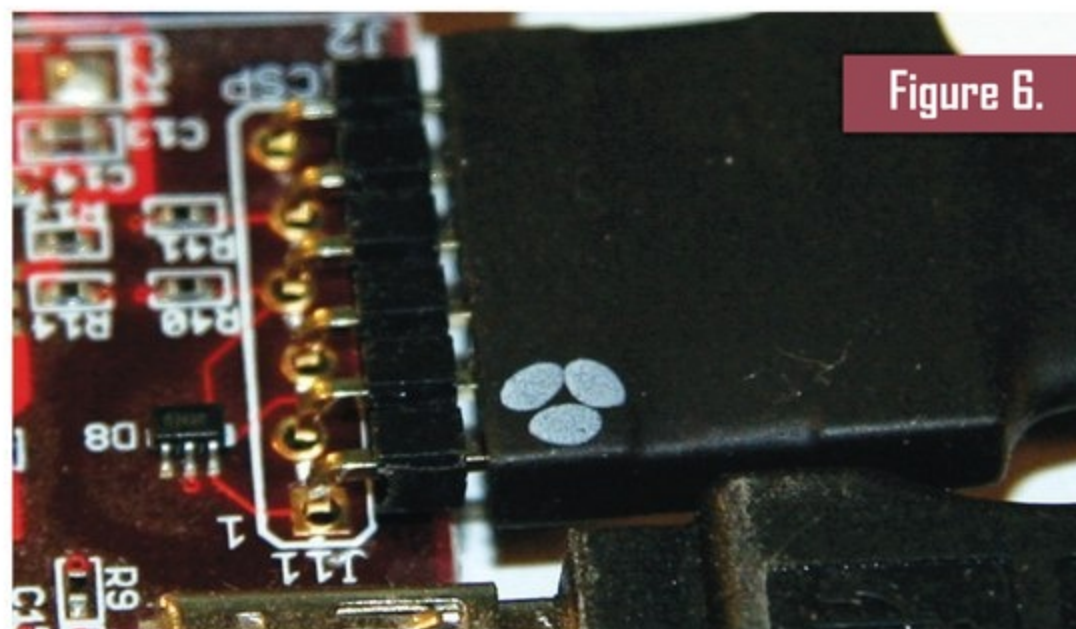

Figure 6.
10. Connect the PICKit3 to the MAX32 as shown in **Figure 1**. The > on the PICKit3 denotes "pin 1." Make sure your connector cable connects to the pin on the MAX32 that is in the square hole, labeled "1" on the board. You will note (**Figure 6**) that the six-pin connector has staggered holes. This allows a Berg header to be "friction" fit into the holes to program the board and then be removed. Neat idea, Digilent!